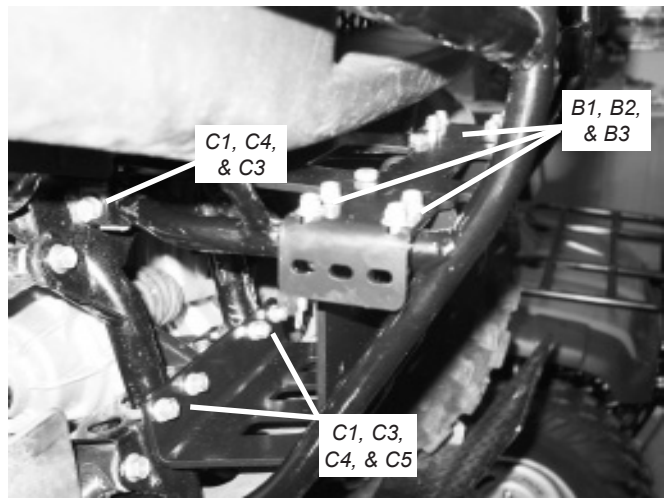

Figure 15 Attach Upper and Lower Brackets to Bumper
7. Install the rear of the upper mounting bracket (A1) to the front bumper using two 8mm dia x 25 mm long bolts (C1), 5/16" dia lock washers (C4), and 5/16" dia flat washers (C3) as shown in figure 15. The lock washer should be placed between the head of the bolt and flat washer. Tighten the bolts to a recommended torque of 14 ft-lb (19 N-m).
8. Install the front of the upper mounting bracket (A1) to the front bumper using four 6mm dia x 24 mm wide U-bolts (B1), and eight 1/4" dia flat washers (B2) and 6mm nylock nuts (B3) as shown in figure 15. Tighten the nuts to a recommended torque of 7 ft-lb (10 N-m).
9. Install the rear of the lower mounting bracket (A2) to the ATV frame using two 5/16" dia x 1-1/4" wide U-bolts (C2), and four 5/16" dia flat washers (C3) and 5/16" dia nylock nuts (C6) as shown in figure 15. Tighten the nuts to a recommended torque of 14 ft-lb (19 N-m).